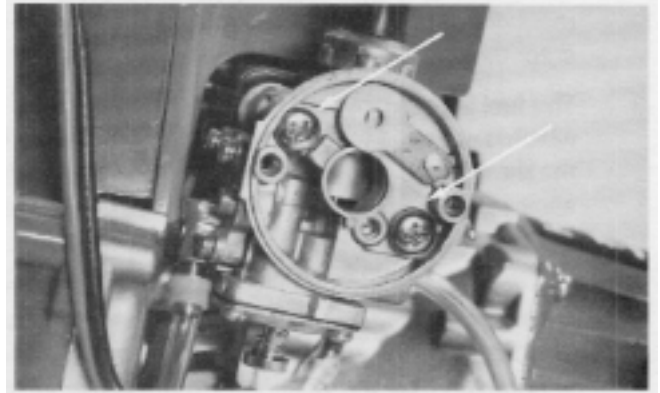

Figure 17
2. Pull from the carburetor the overflow line and the fuel feed line. Remove the carburetor with attached throttle wire. Next, remove the two screws with lock washers, that secure the carburetor onto the intake flange. See Figure 17.